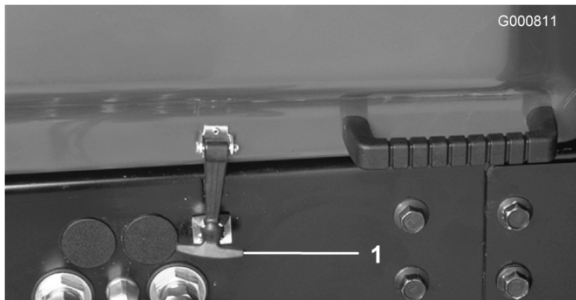

Figure 16
1. Park machine on a level surface. Release hood latch and open hood (Figure 16).